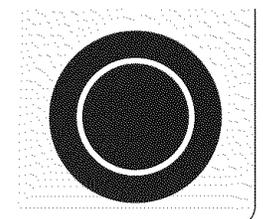

Fig. 4
Both the 30" and 36" cooktops are equipped with dual radiant surface element located as shown in Figs. 1 & 2. A touch key pad on the element controls is used to select one of the 2 positions of the element. Symbols and indicator lights on the control panel are used to indicate which coil of the dual radiant element will heat. The ● symbol indicates that only the INNER coil will heat (Fig. 3). The ⊙ symbol indicates that both INNER and OUTER coils will heat (Fig. 4). You may switch from either coil setting at any time during cooking.
4. Select the INNER (Fig. 3) or INNER and OUTER (Fig. 4) to heat by touching the  key pad.
8. When cooking has been completed touch the  pad once to turn the element OFF and if no other surface element is used touch the  key pad to turn off the cooktop. **Note:** The **Hot Element (HE) message** will be showed on display for each element until the heating surface area has cooled sufficiently.